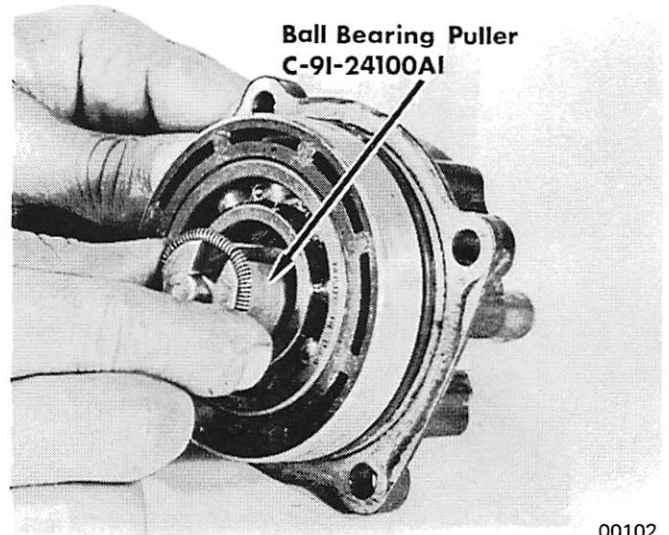
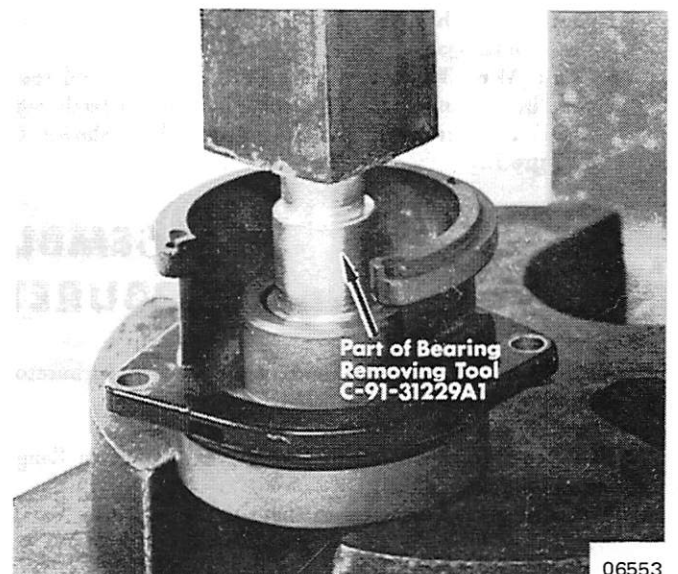

Figure 7. Inserting Ball Bearing Puller into End Cap Ball Bearing
Figure 9. Removing Roller Bearing from End Cap
11. Remove ball bearing and roller bearing from end cap with Ball Bearing Puller (C-91-24100A1). (Figures 7 and 8) Place mandrel into roller bearing (Figure 9) and press out toward ball bearing end to remove roller and ball bearing.
12. Replace roller bearing. (Figure 9) Use Bearing Mandrel (C-91-25045 with Tool Collar "A") or Bearing Mandrel